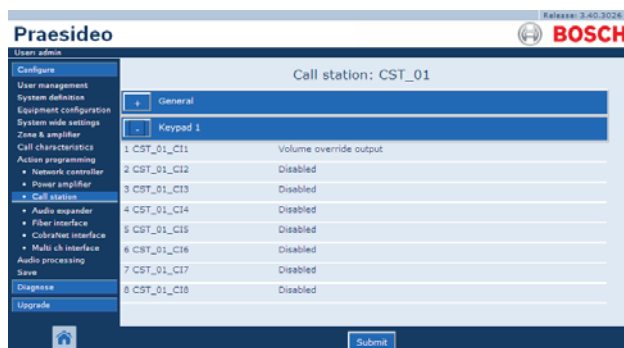

figure 47.37: Volume override output key
*Volume override output* key can be assigned to a zone (see section 45.2) and becomes active when a call with a priority equal to or higher than 32 is sent to the zone. See figure 47.37 for an overview of the *Action programming* page for a *Volume override output* key.